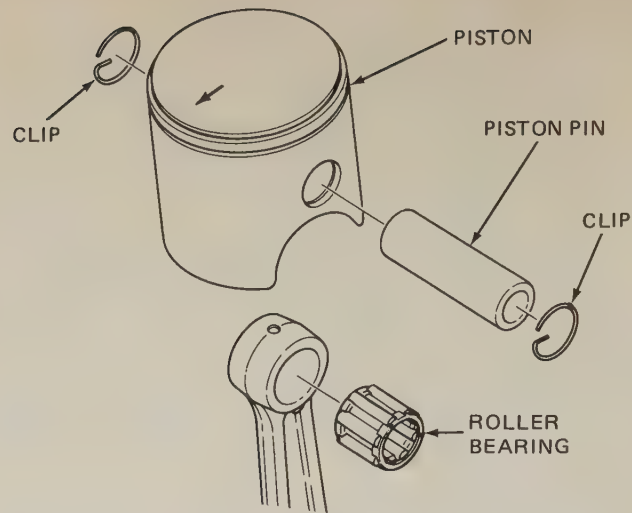

FIG. 31-24 Piston and connecting-rod assembly that uses a roller bearing in the small end of the connecting rod. (Yamaha Motor Company, Ltd.)
**○31-11 CHECKING CONNECTING-ROD SMALL-END AND BIG-END BEARINGS** The piston is attached to the connecting rod in a variety of ways. In some, the piston pin is a press fit in the connecting rod. In others, the pin is supported in the rod with a sleeve or roller bearing (Fig. 31-24). The fit of the pin to the bearing should be checked, and if it is not correct, a new bearing, or a new connecting rod, will be required. In some engines using sleeve bearings in the rod small end, it is possible to ream the bearing to a larger size and use a larger size pin. If this is done, the bearing surfaces in the piston must also be reamed to a larger size.